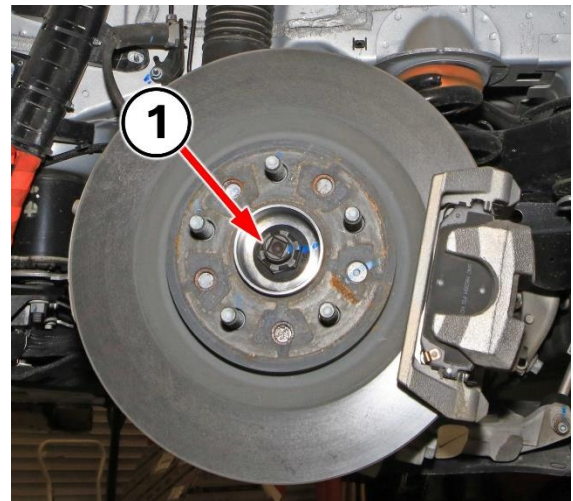

Figure 5 – Axle Nut
7. **Both right side and left side rear axles:** Apply the brake then remove and **DISCARD** the axle nut (Figure 5).